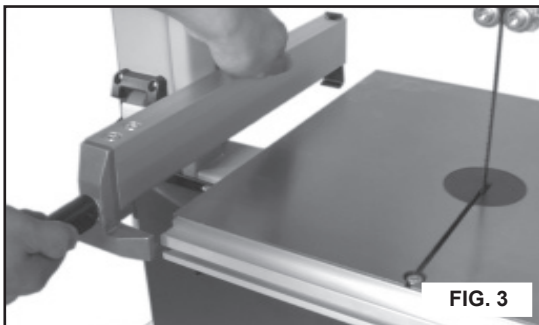

FIG. 3
c. Lay the rip fence onto the guide rail. Adjust the rip fence parallel to the saw blade. Tighten rip fence handle by pressing downward. (See Fig. 3)